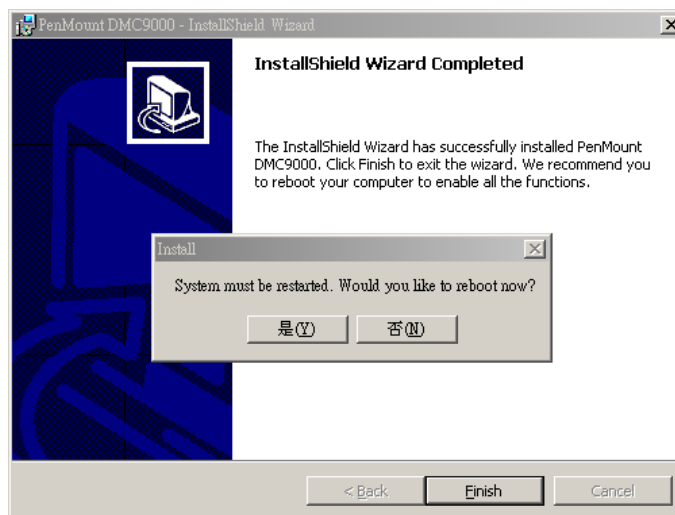

Figure 7-45: Reboot the Computer
Step 7: The user is then prompted to select to restart the computer now or later (Figure 7-45). For the settings to take effect, the computer must be restarted. Click **Yes** to restart the computer.